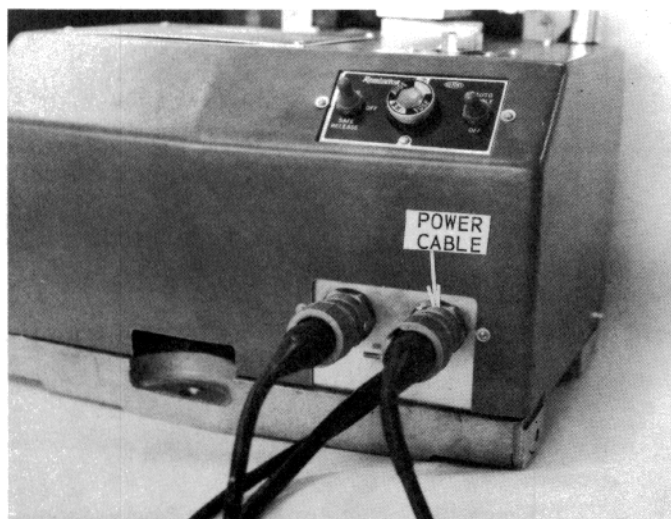

Figure 5 — Connecting Power Cable
- 1.4 Connect the power cable to the trap (see Figure 5).